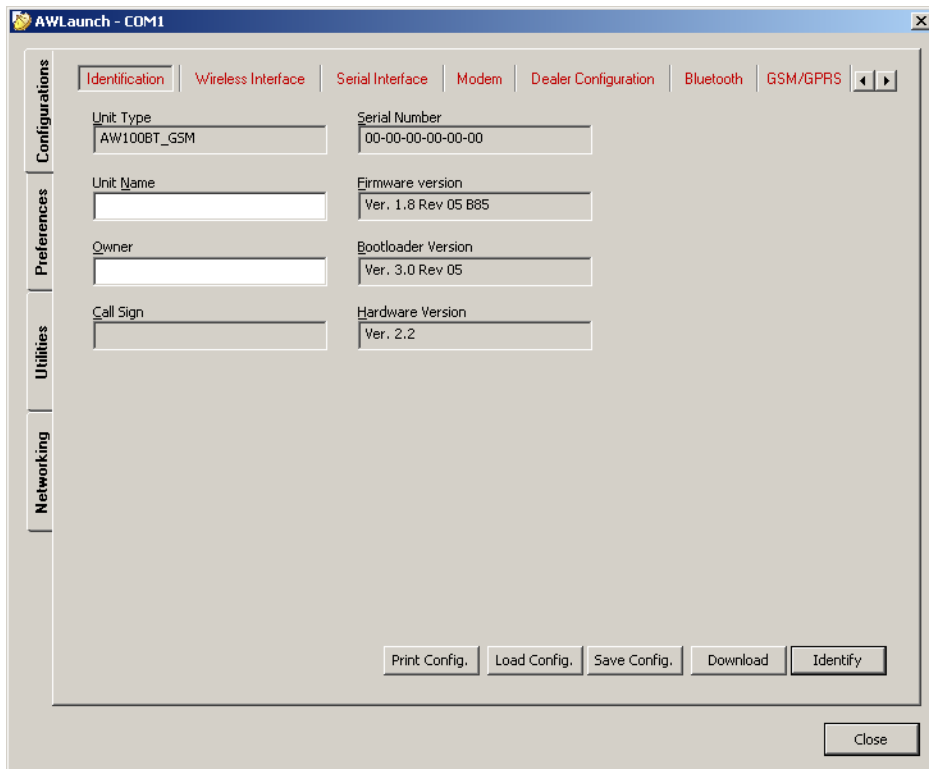

Figure 2-6. Identification tab
5. Once the identification process completed successfully unit's information will appear n the *Identification* subtab of *Configurations* tab (Figure 2-6 on page 20), i.e. serial number, firmware, hardware and boot loader versions.